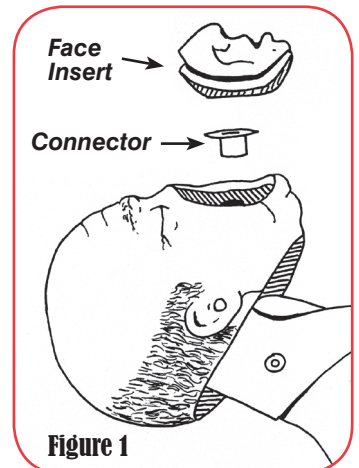

Figure 1
1. Remove the face insert and connector from the face cavity. (See figure 1.)